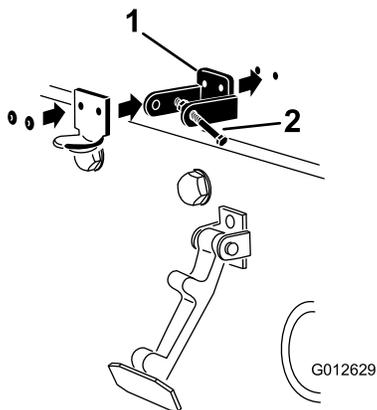

Figure 6
3. While aligning the mounting holes, position the CE lock bracket and the hood latch bracket onto the hood. The lock bracket must be against the hood (Figure 6). Do not remove bolt and nut assembly from the lock bracket arm.